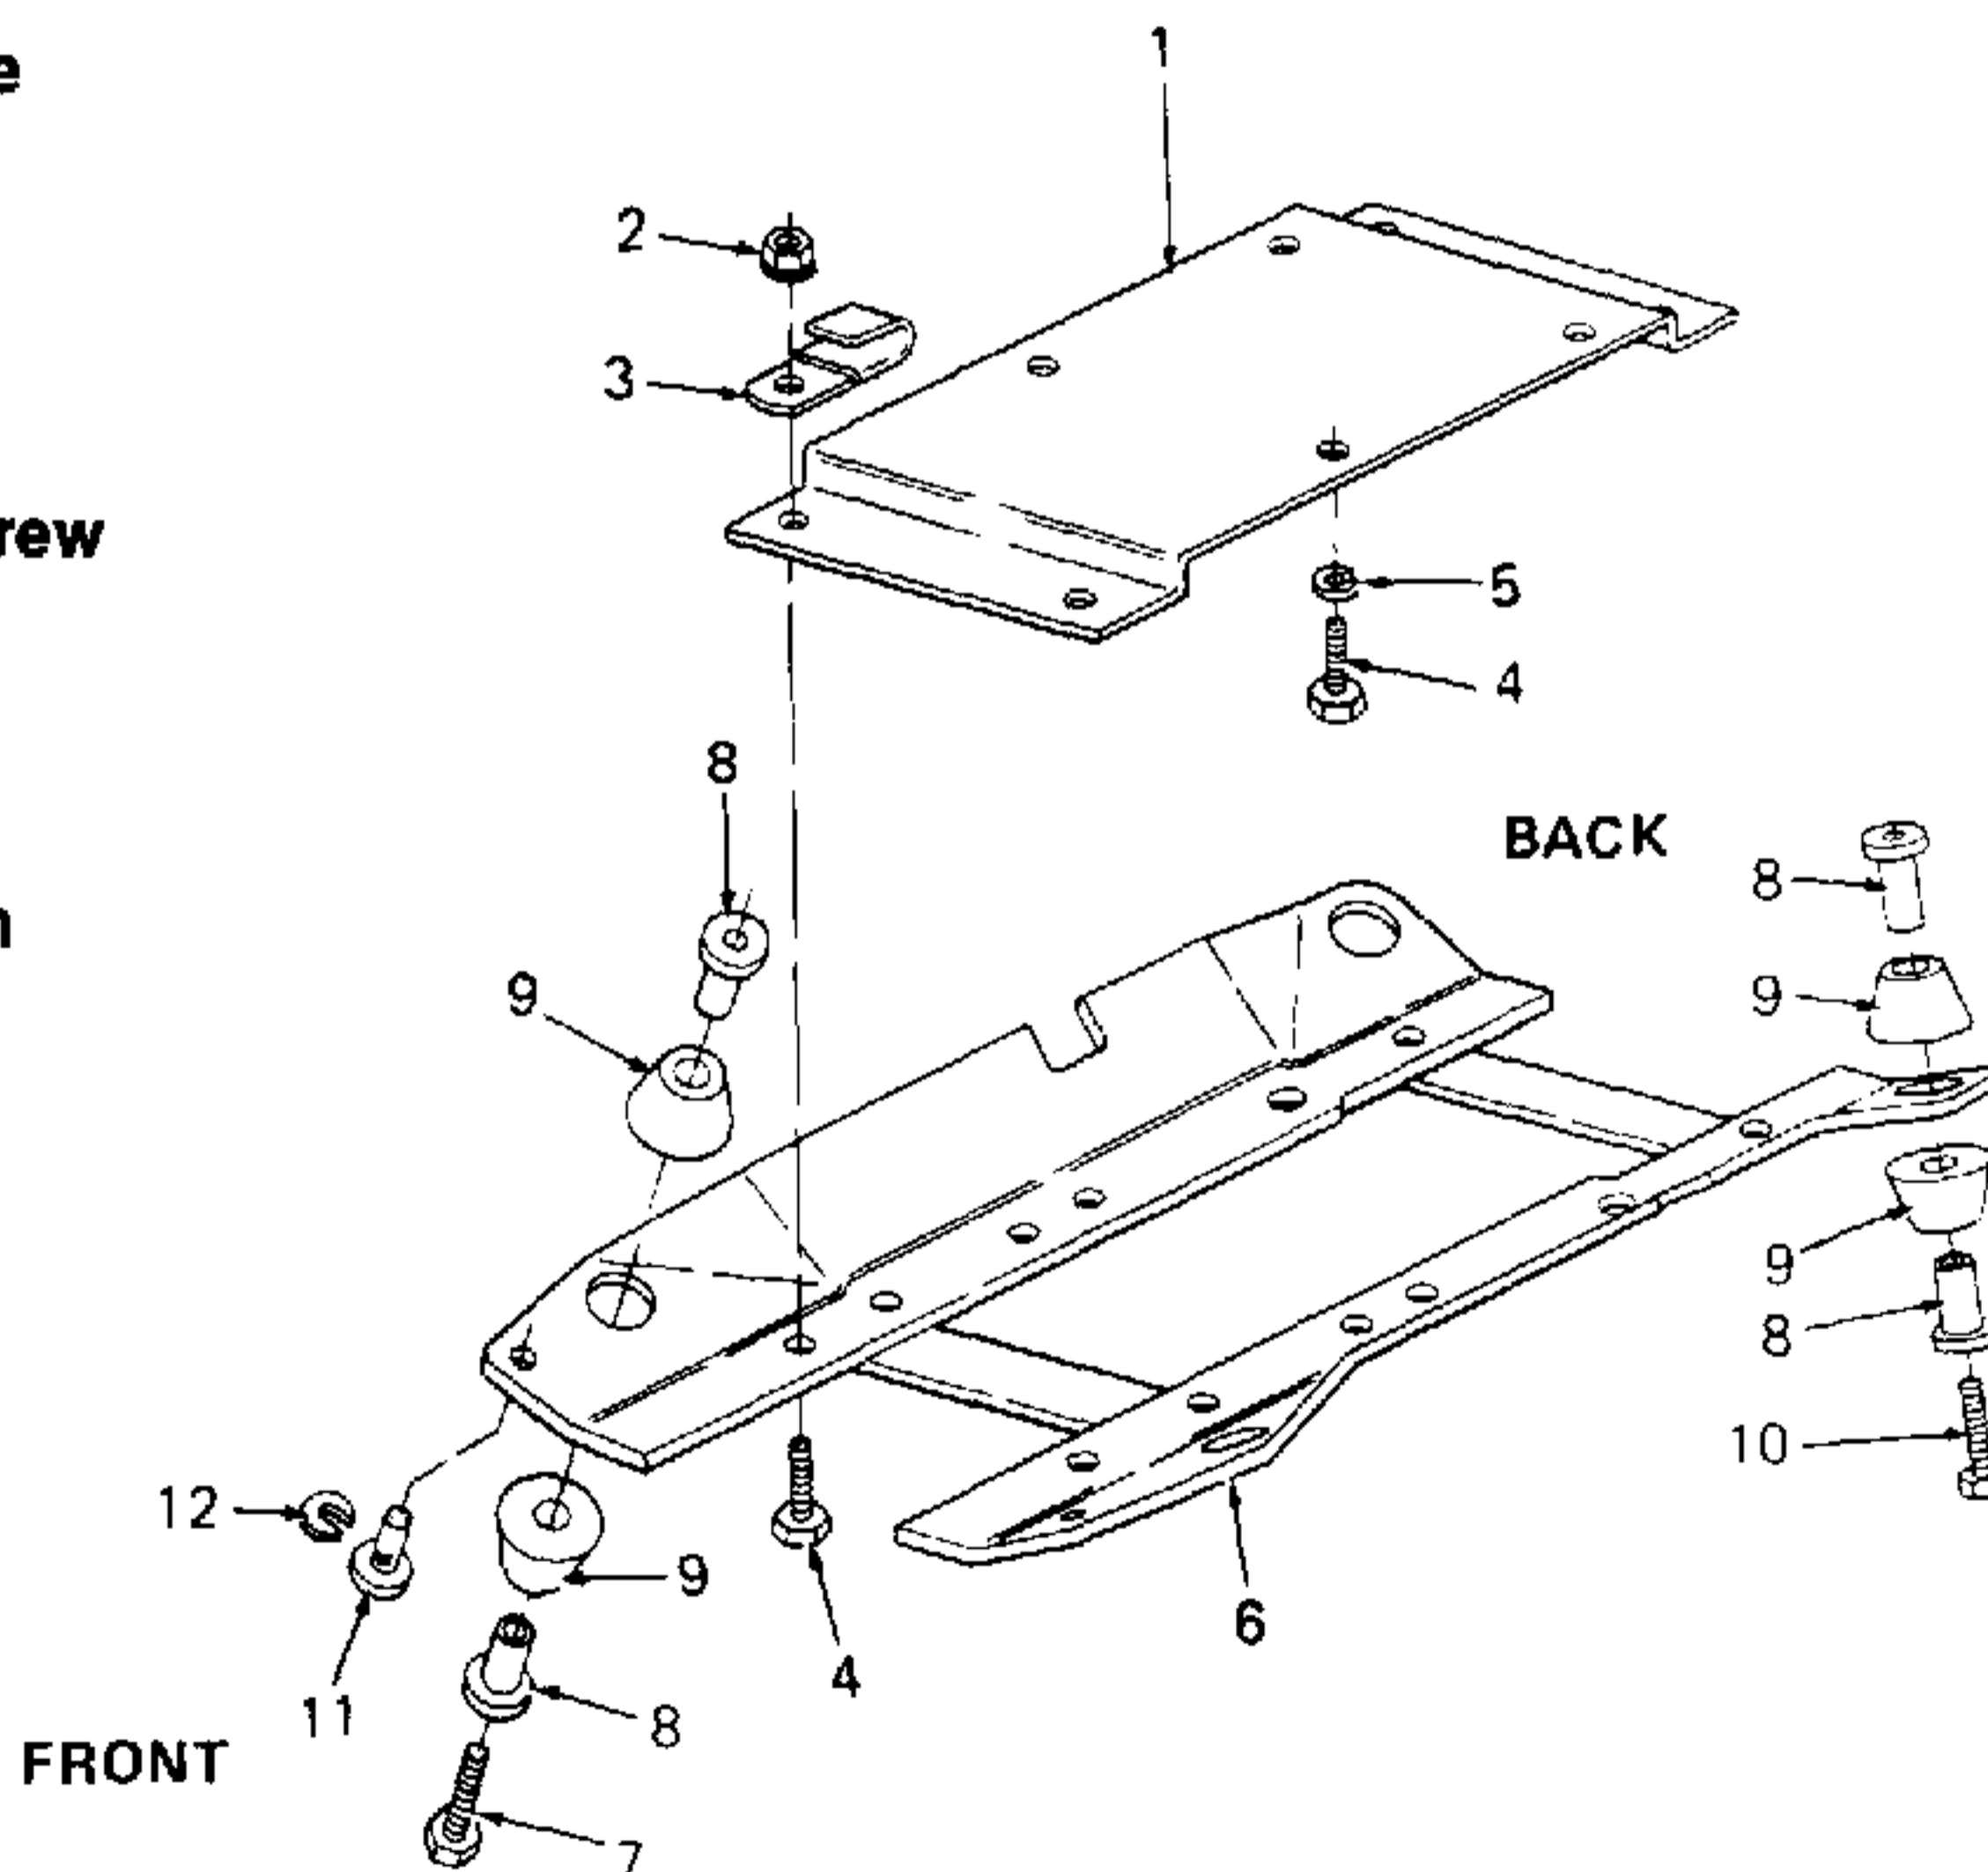

Figure 5-103. Engine Mounting (Model 1340).
4. Remove engine mounting plate (1, Figure 5-103) by removing hex flange lock nut (2), cable clip (3), hex cap screw (4) and lock washer (5).
5. Remove engine mount cradle (6) by removing pan head machine screws (7), hex cap screws (10), rubber mount inserts (8), rubber mounts (9), snubbing bumpers (11) and snubbing mount shim (12).